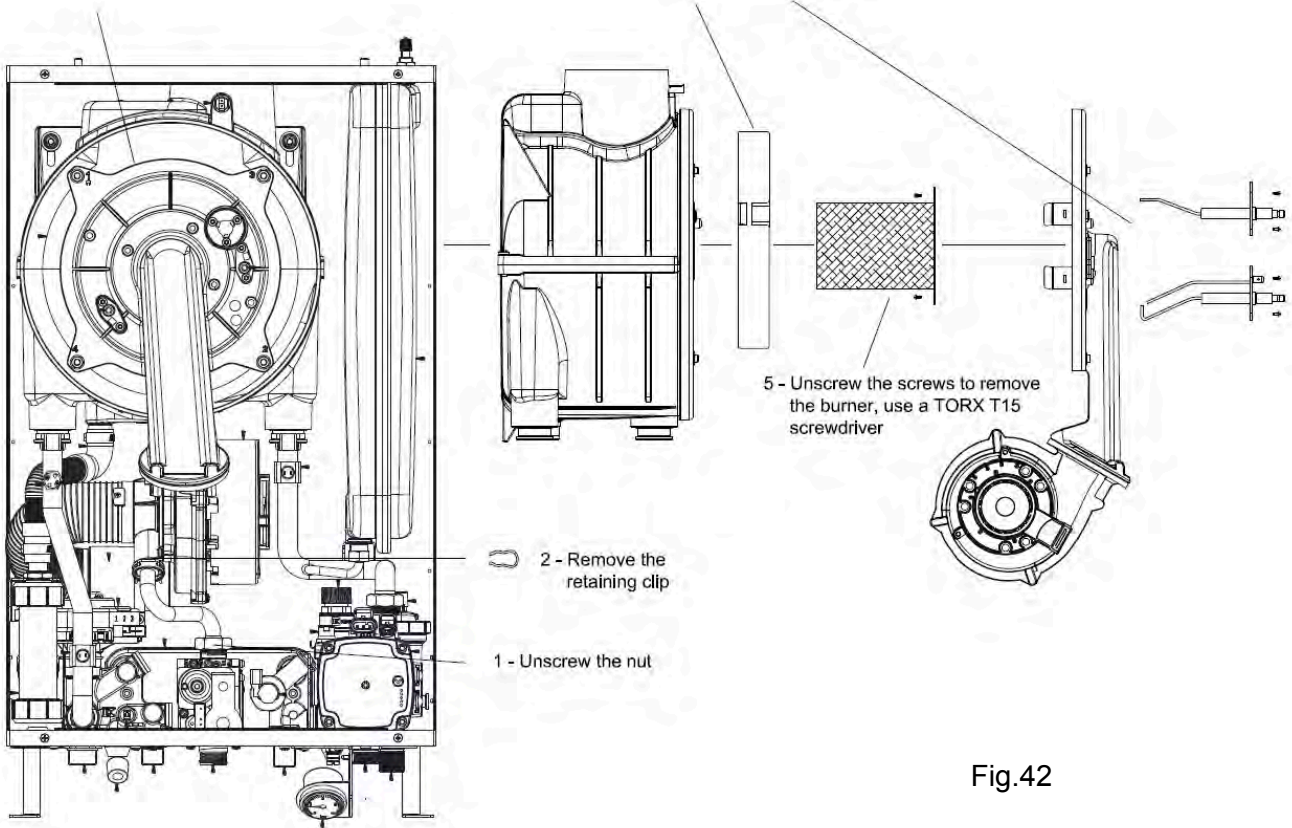

Fig.42
8.6 TO REMOVE/REPLACE THE BURNER (FIG.42)